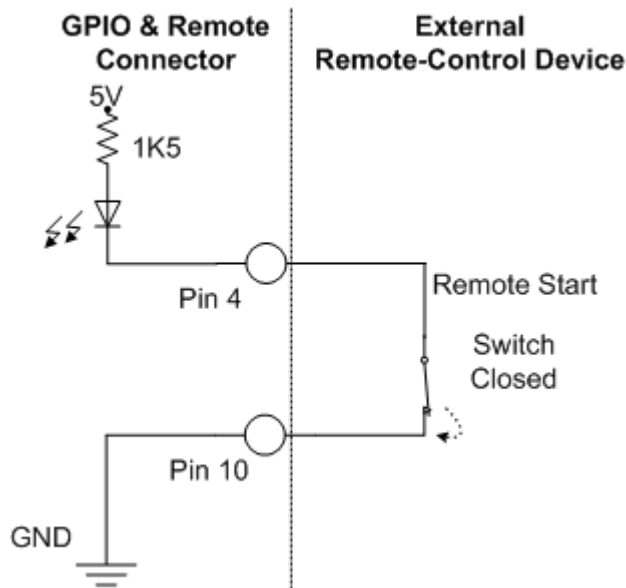

Figure B-3: Example of Remote Switch
For remote control functions, your external switch is concerned with the two control input pins (4 and 11) and the ground pin (10) in the **GPIO & Remote** connector. In order to start a remote capture, your external switch must force pin 4 to GND (that is, short circuit it). In order to stop a remote capture, your external switch must force pin 11 to GND. Figure B-3 illustrates the external switch between control input pin 4 and ground pin 10 closed to start a remote capture.